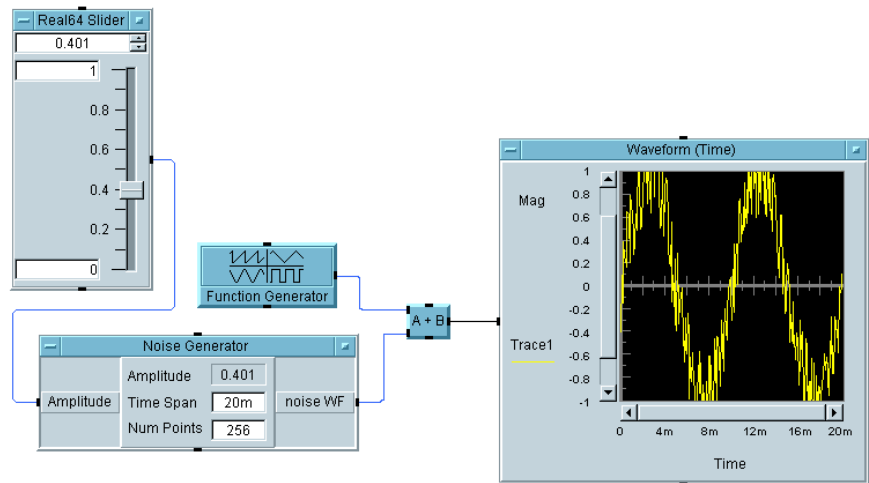

Figure 38 Example: Adding a Real64 Slider Object
- 3 Add a Real64 Slider object (**Data** $\Rightarrow$ **Continuous** $\Rightarrow$ **Real64 Slider**) and connect its data output pin to the Amplitude terminal, as shown in Figure 38. Run the program.